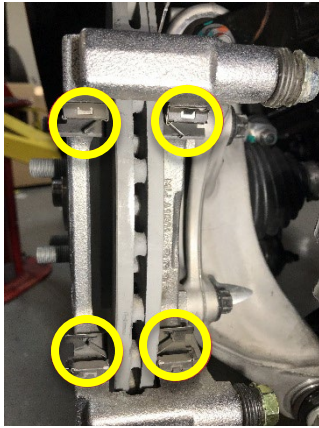

Figure 20 (Model 3 and Model Y abutment springs/clips)
28. Remove the abutment springs/clips or shims (as applicable) from the rear LH carrier (Figures 20 and 21).